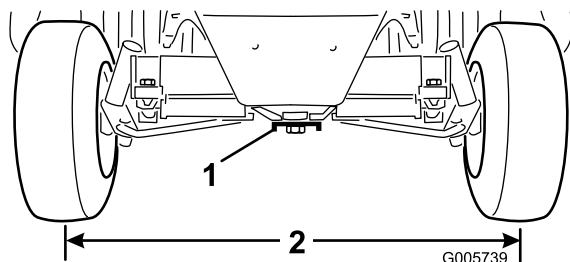

Figure 53
2. Loosen the jam nuts on both tie rods Adjust both tie rods until center-to-center distance at front and back of rear wheels is the same (Figure 53).